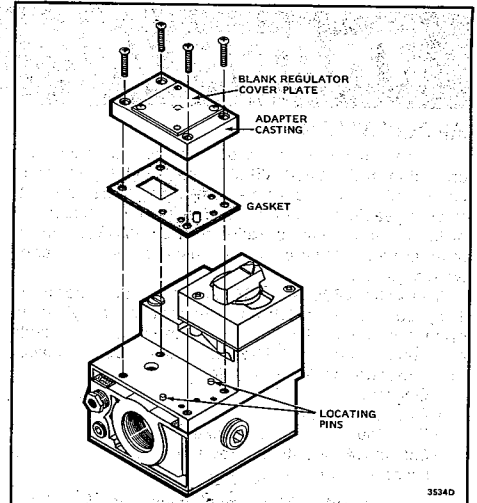

Fig. 1—Removing adapter casting from standard capacity valve body.
2. Remove pressure regulator or blank cover plate. See Figs. 1 and 2. Save regulator or cover plate for reassembly to new operator. Save gasket for blank cover plate; discard pressure regulator gasket.
2. Remove adapter casting from valve body. See Figs. 1 and 2. Discard casting and gasket.
1. Remove the old operator or adapter casting by loosening the 4 mounting screws and lifting operator or adapter off the main valve body. DO NOT loosen the 5th screw at the edge of the operator. See Figs. 1 and 2.